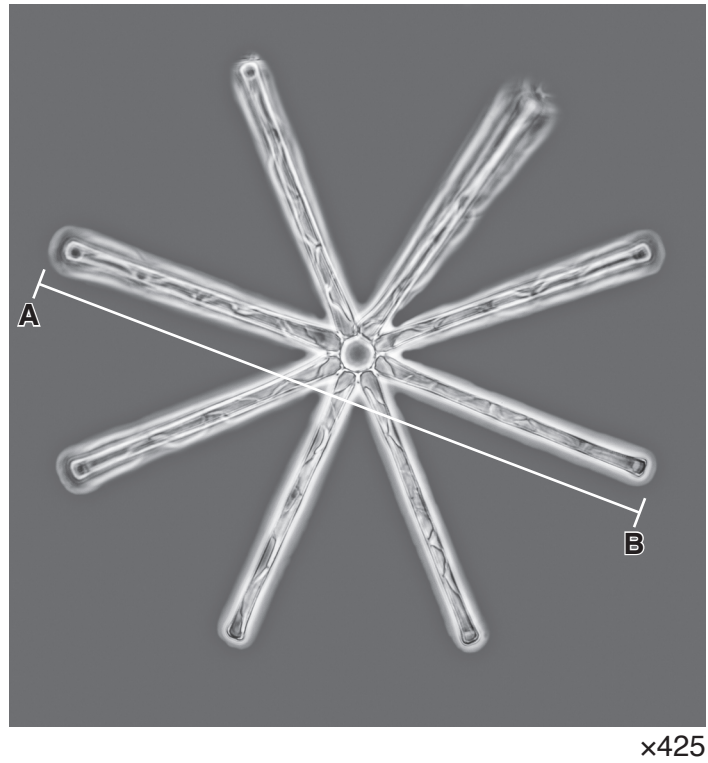

Fig. 2.1
2 Fig. 2.1 shows *Asterionella*, which are microscopic algae that live in fresh water.
- (ii) Measure the length of the line **AB** in Fig. 2.1. Include the unit.
Use the formula to calculate the actual diameter of the algae shown in Fig. 2.1. Include the units.